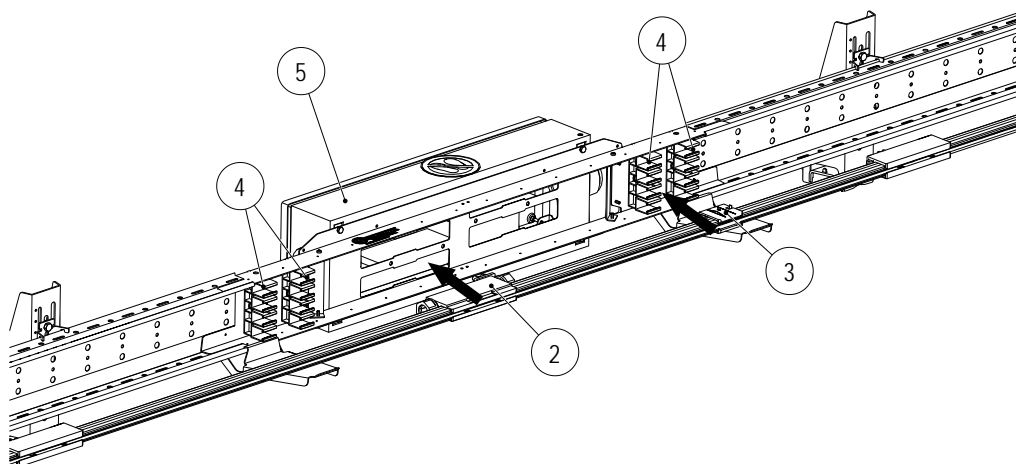
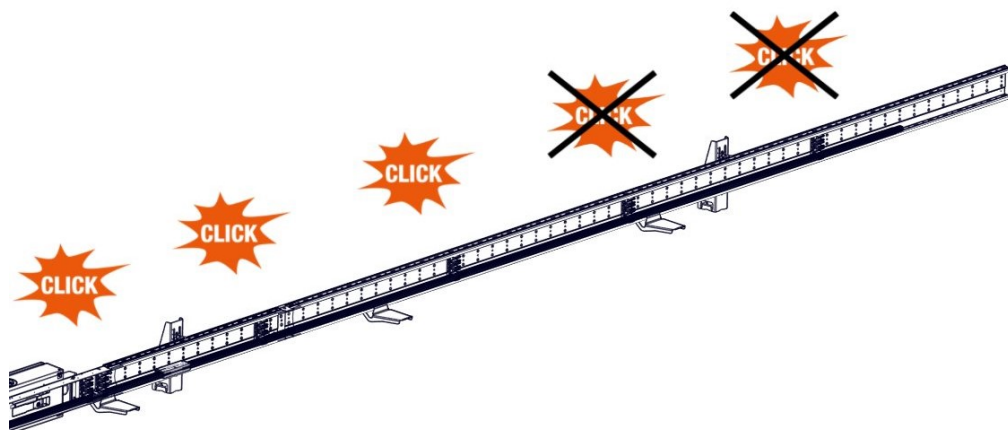

Fig. 36: Install the conductor rail with line feed (2) and anchor point (3) on terminal box (5)
Fig. 37: Do not attach last hanger clamps to additional conductor rails
4. Hang the connected conductor rails on the hanger clamps in such a way that the installed line feed (2) fits on the terminal box recess and the anchor point (3) is positioned between its hanger clamps (4) (see Fig. 36). Observe the PE position of the conductor rail (Conductix-Wampfler recommends attaching the PE rail as the last or lower pole (viewed from above)). Hang the additional conductor rails on the hanger clamps. For better handling, do not yet hang the additional conductor rails on the last two hanger clamps (see Fig. 37).